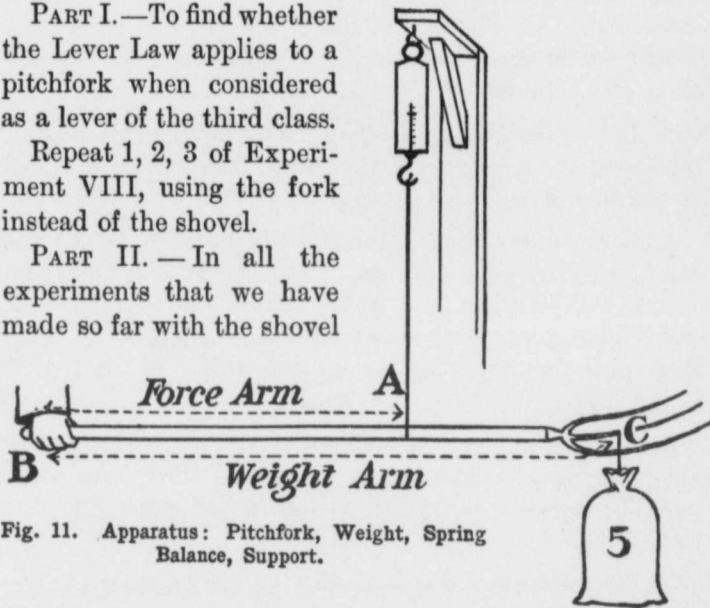

Fig. 11. Apparatus: Pitchfork, Weight, Spring Balance, Support.
1. Move the position of A and of B 1 foot nearer to the tines, Fig. 11 a. Of course the fork is no longer balanced and each hand supports part of its weight.
Fig. 11 a. Apparatus : Pitchfork, Weight, Spring Balance, Support.
1. A pitchfork is balanced as in Fig. 11. The distance BA is 3 feet; the distance BC is 5 feet. It takes 3 lbs. to support the fork alone. What is the total force at A required to support 5 lbs. attached at C?